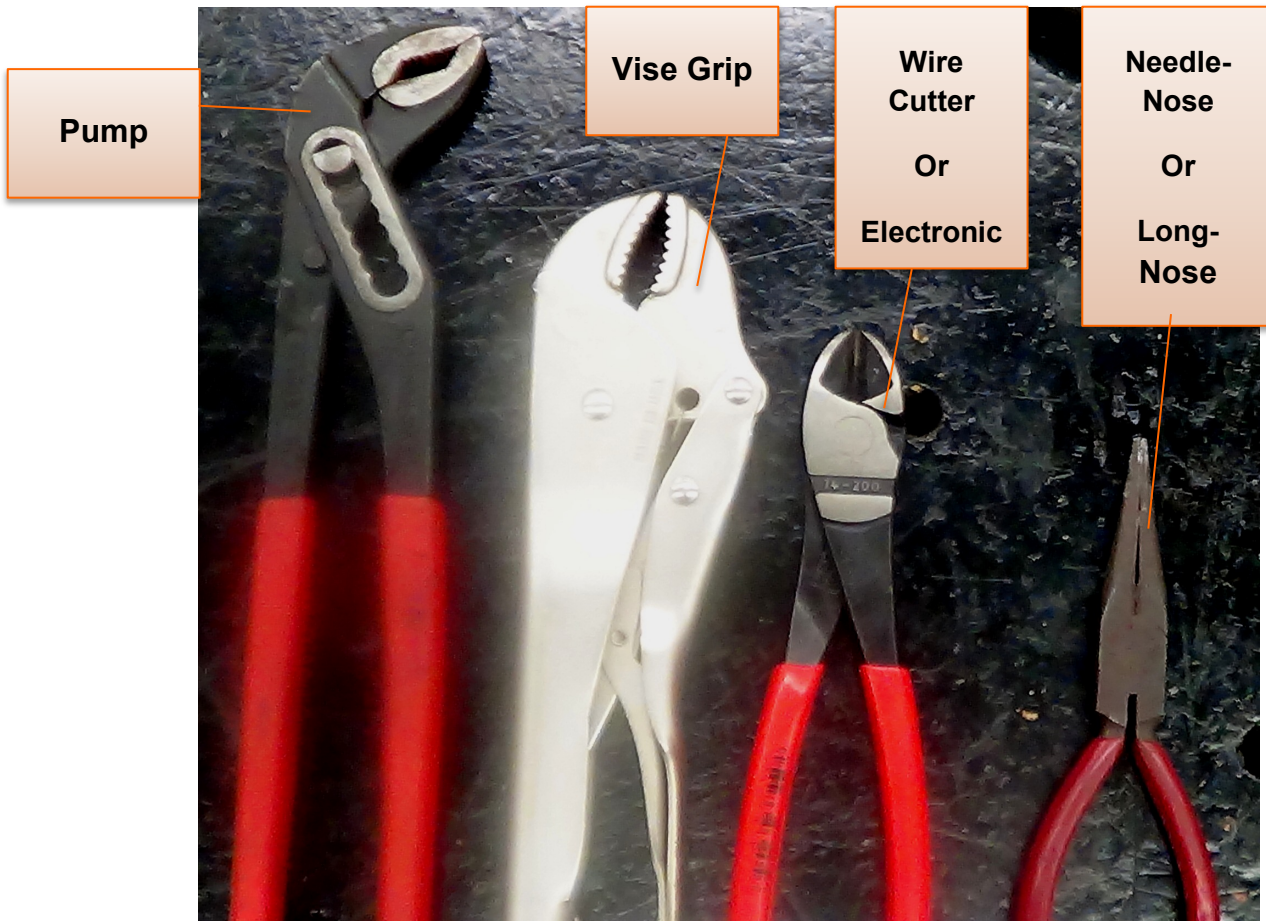

Figure 2: Types of Pliers (Image provided by Ladell Humphries, 2013)
**Pliers** are available with different types of jaw action and come in several shapes (**Figure 2**). Combination or slip-joint pliers will do most jobs where they are required. The slip-joint allows the jaws to expand and hold larger pieces. They are measured by their length. Interlocking joint pliers or Channel-locks® were made to tighten nuts on water pumps of automobiles but can be very useful in a variety of jobs.